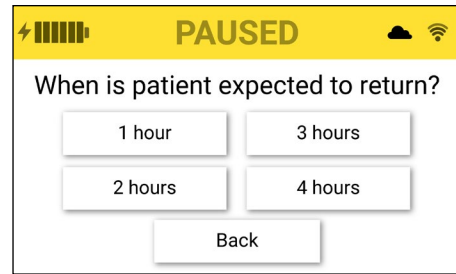

Figure 9. Off unit pause time selection screen
5. Select the desired timeframe based on when the patient is anticipated to return from the off-unit procedure (Fig. 9).